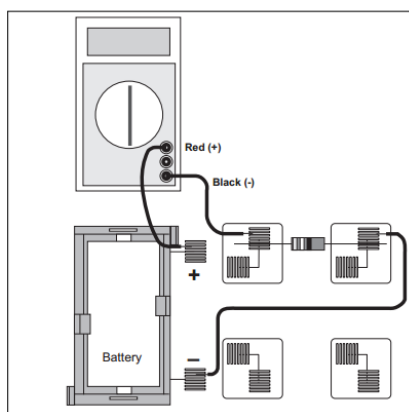

Figure 11.1a
2. **MEASURING CURRENT:** Construct the circuit shown in Figure 11.1a by pressing the leads of the resistor into two of the springs in the Experimental Section on the Circuits.